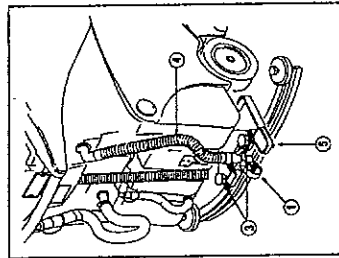

Fig. 7
- 1) stand before the handle and orient the squeegee in such a way that it has the blades bent downwards and the wheel (fig. 7, ref. 1) at the position shown in fig. 7;
- 2) check that the squeegee supporting plate (fig. 7, ref. 2) is raised, otherwise lift it by acting on the proper pedal (fig. 7, ref. 5);
- 3) slacken the two knobs (fig. 7, ref. 3) placed in the centre of the squeegee;
- 4) insert the two threaded dowels in the slots of the support (fig. 7, ref. 3);
- 5) fix the squeegee tightening the knobs (fig. 7, ref. 3);
- 6) after lowering the squeegee, firmly push down the sleeve of the suction tube (fig. 7, ref. 4) into the squeegee.
- check that the squeegee (fig. 2, ref. 6) is fixed well and connected to the suction tube (fig. 7, ref. 4); make sure that the rear blade is not worn.